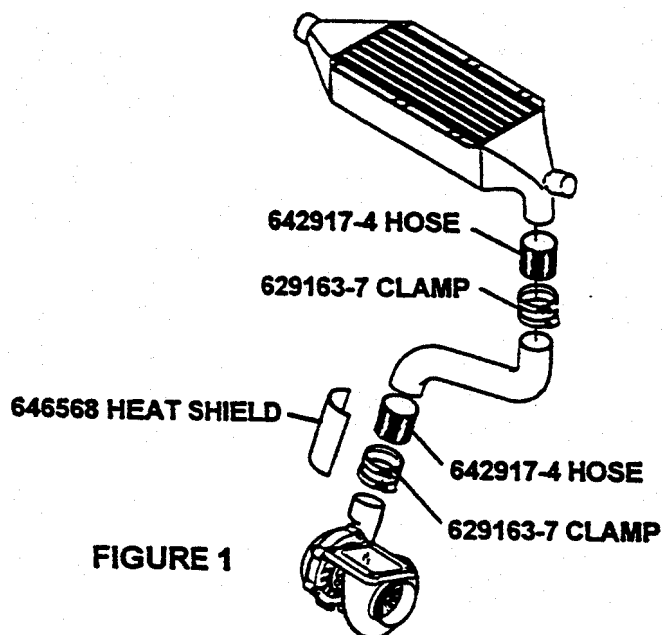

FIGURE 1
1. Remove engine cowlings and components necessary to gain access to the hoses and clamps that secure the left and right induction tubes located between the turbocharger compressor outlet and aftercooler inlet. See Figure 1. Reference the applicable airframe manufacturer's maintenance manual for cowlings and component removal and installation instructions.
The following instructions must be accomplished on both the left and right induction tube hoses and clamps located between the turbocharger compressor outlet and aftercooler inlet. See Figure 1.